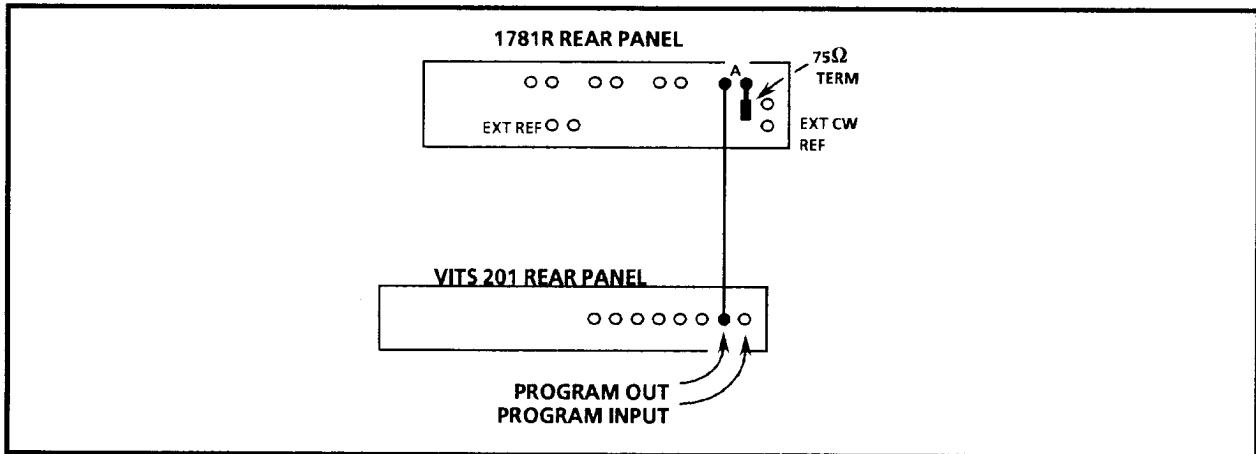

Figure 6–5. Equipment setup to check Test Signal Frequency Response.
- d. Remove the BNC adapter. Connect the TSG13 output to PROGRAM IN, and connect PROGRAM OUT to the 1781 Ch. A input, as shown by the dotted lines in Figure 6–9.